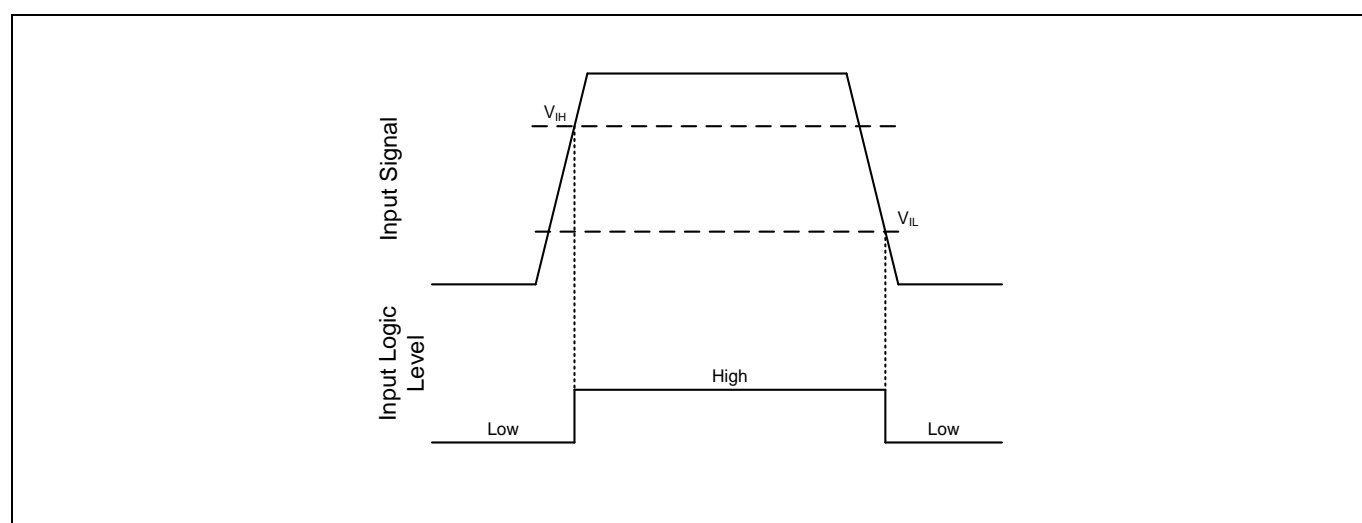

Figure 13 IN & /SD input thresholds
The input pins are based on a TTL and CMOS compatible input-threshold logic that is independent of the V_{CC} supply voltage. Figure 13 illustrates an input signal to the 2ED2109 (4) S06F (J), its input threshold values, and the logic state of the IC as a result of the input signal. The typical high threshold (V_{IH}) of 2.1 V and typical low threshold (V_{IL}) of 0.9 V. The input pins are conveniently driven with logic level PWM control signals derived from 3.3 V and 5 V digital power-controller devices. Wider hysteresis (typically 0.9 V) offers enhanced noise immunity compared to traditional TTL logic implementations, where the hysteresis is typically less than 0.5 V. 2ED2109 (4) S06F (J) also features tight control of the input pin threshold voltage levels which eases system design considerations and ensures stable operation across temperature. The 2ED2109 (4) S06F (J) has input pins that are capable of sustaining voltages higher than the bias voltage applied on the V_{CC} pin of the device.